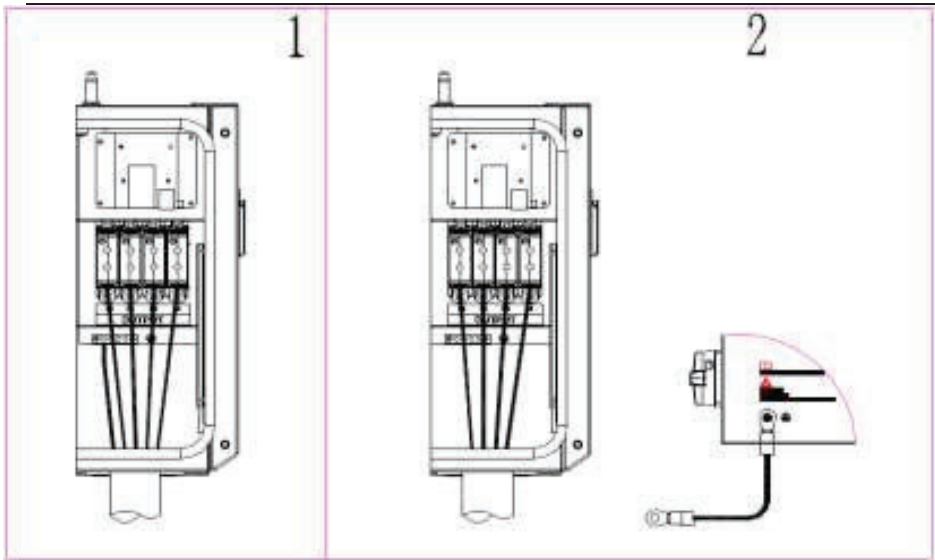

Figure 2.25 - AC Output and Ground Cable Connections
(1) Connect the AC (L1, L2, L3, N) cables to the terminal block and connect the ground cable to the internal grounding bar inside the wiring box. (See the first diagram in Figure 2.25)
(2) Connect the AC (L1, L2, L3, N) cables to the terminal block and use the OT type terminal to connect the ground cable to the external grounding point at the bottom of the wiring box. (See the second diagram in Figure 2.25)